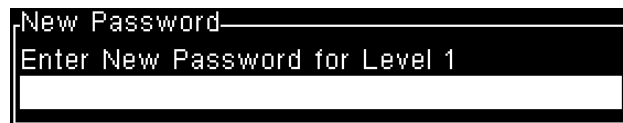

Figure 4-6: New Password Dialog Box
- 3 Press Enter to open the New Password dialog box (Figure 4-6).